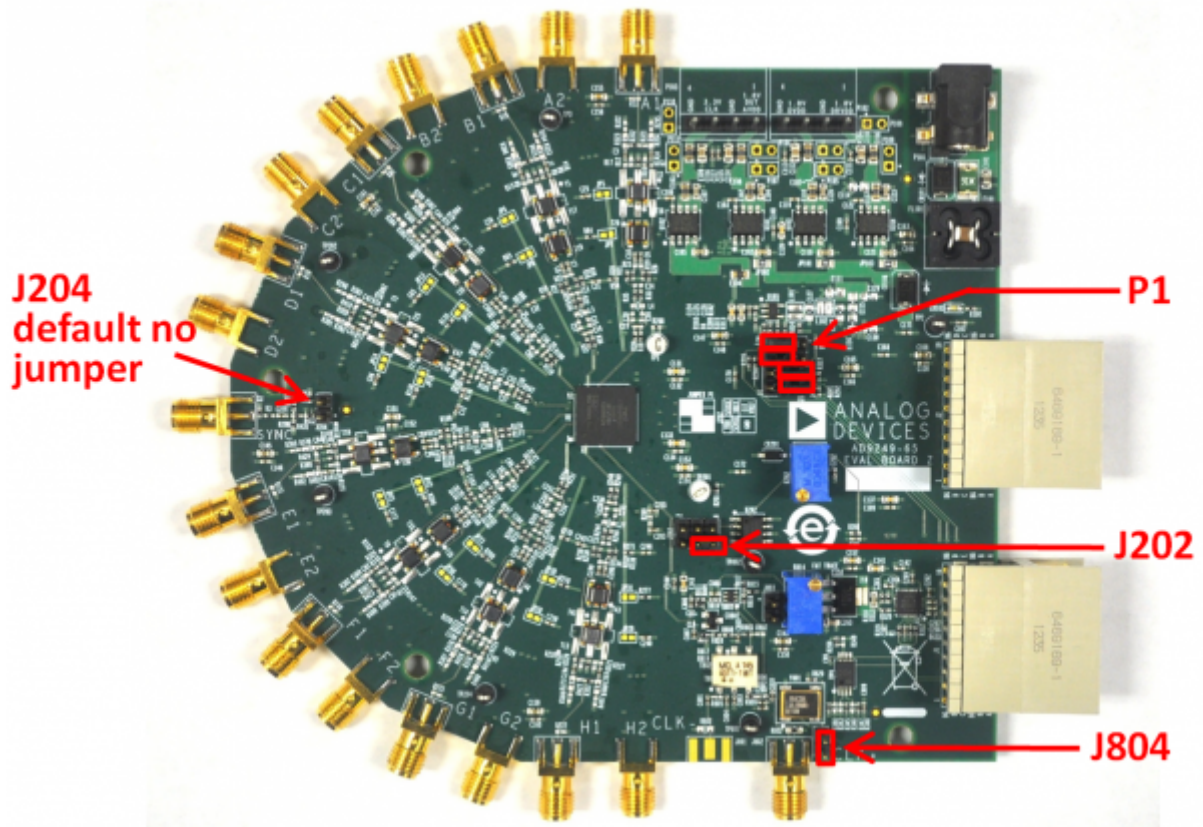

Figure 2. Default Jumper Connections for AD9249-65EBZ Board
2. On the ADC evaluation board, confirm that the jumpers are installed as shown in Figure 2.
Set the jumper settings/link options on the evaluation board for the required operating modes before powering on the board. The functions of the jumpers are described in Table 1. Figure 2 shows the default jumper settings.
J202	This jumper selects between internal V_{REF} and external V_{REF} . To choose the ADC's internal 1V reference, connect Pin 3 (DUT_SENSE) to Pin 5 (GND) as shown in Figure 2. To use the on-board AD822 buffered reference, connect Pin 2 (DUT_SENSE) to Pin 1 (AVDD), and connect Pin 4 (DUT_VREF) to Pin 6 (EXT_REF). Adjust external VREF to be 1.0V using potentiometer R202. To apply a reference voltage from an external off-board source, connect Pin 2 (DUT_SENSE) to Pin 1 (AVDD) and apply the reference voltage to Pin 4 (DUT_VREF). The AD9249 reference voltage is specified to be 1.0 V.